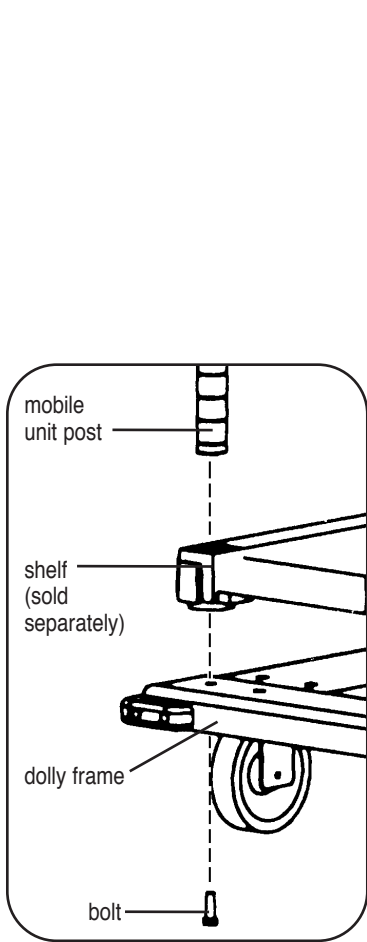

Figure 5
1. Install each mobile unit post onto each corner of dolly frame with bolt as shown in *Figure 5*.